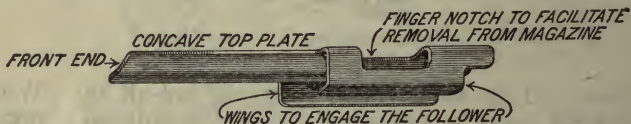

FIG. 9a.—Follower Depressor for Model 1917.
**Follower Depressor.** The Depressor is to be used only in Exercises. (Fig. 9a.)